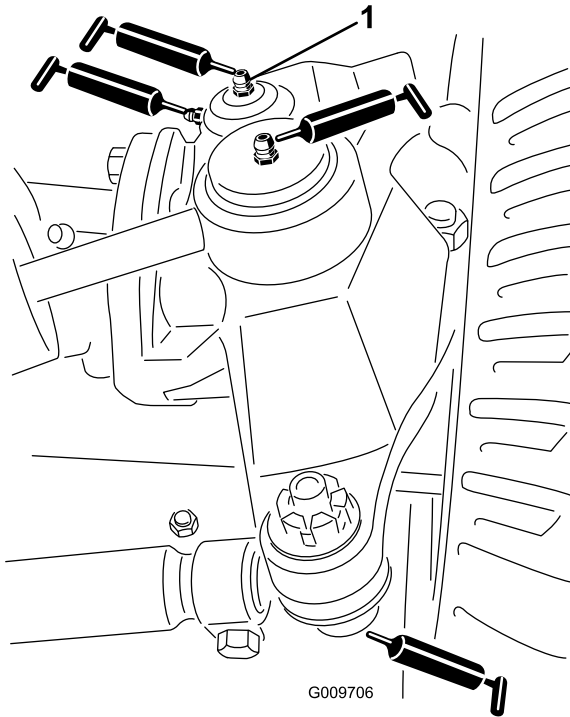

Figure 51
- Steering cylinder ball joints (2) (Figure 51)
- Tie rod ball joints (2) (Figure 51)
- King pin bushings (2) (Figure 51). **The top fitting on the king pin should only be lubricated annually (2 pumps).**